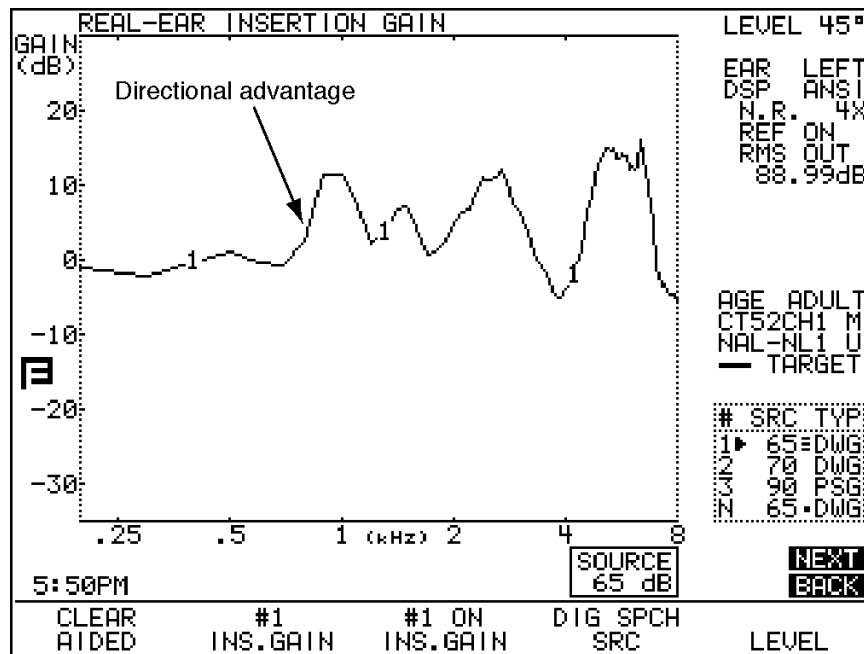

Figure 4.4.5C—Amount of amplification advantage provided by the directional microphones
13. Press [NEXT] to enter the Insertion Gain screen. The displayed measurement curve is the difference between the "forward" and the "reverse" measurements, or the amplification advantage provided by the directional microphones of the hearing aid. See Figure 4.4.5C.